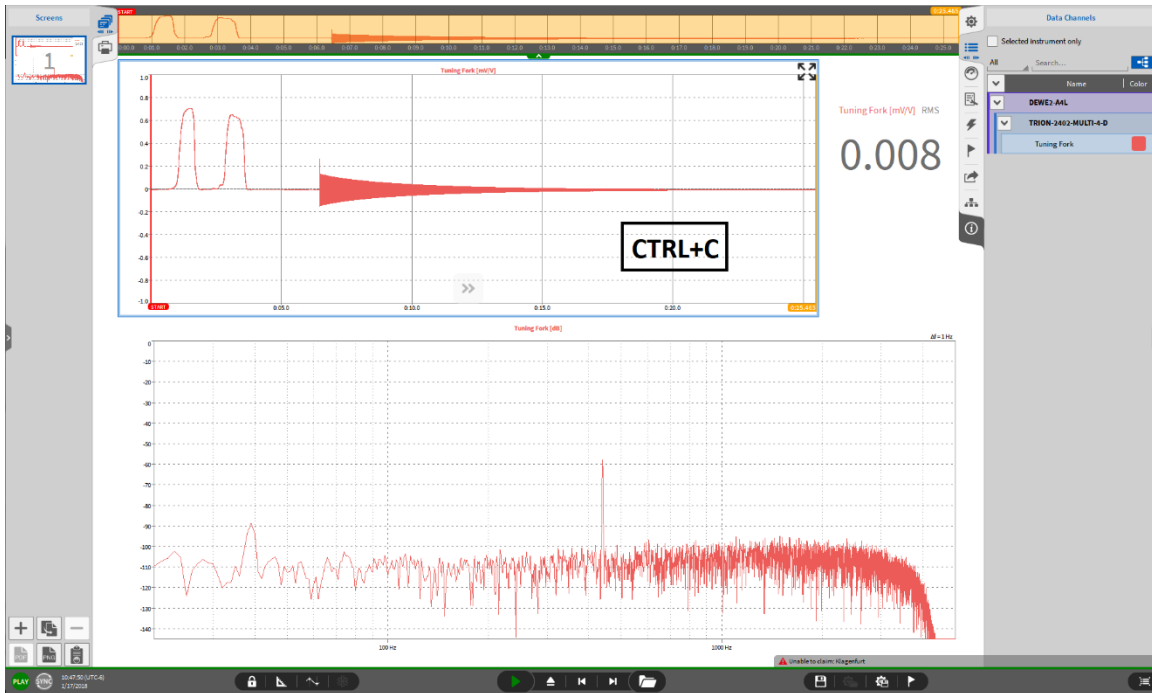
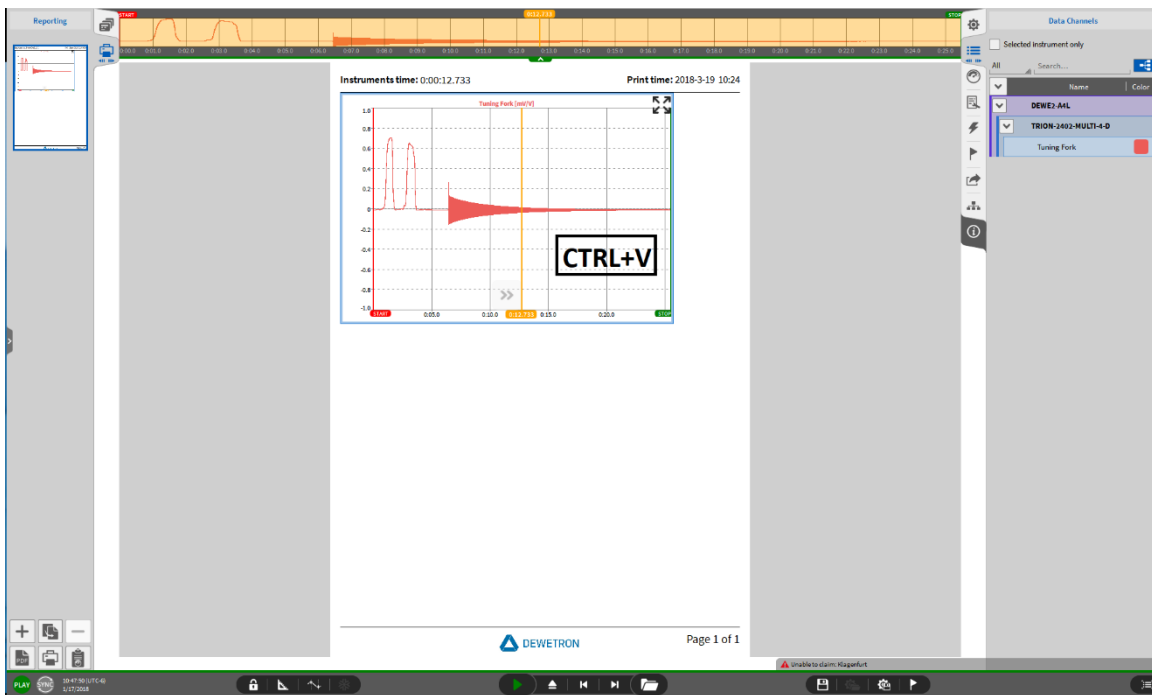

Figure 11-6: Copying single instruments from the measurement screen...
Figure 11-7: ... to the report page
- Select and copy single instruments from the measurement screen via **CTRL+C** (see Figure 11-6) and paste it to the report page via **CTRL+V** (see Figure 11-7)